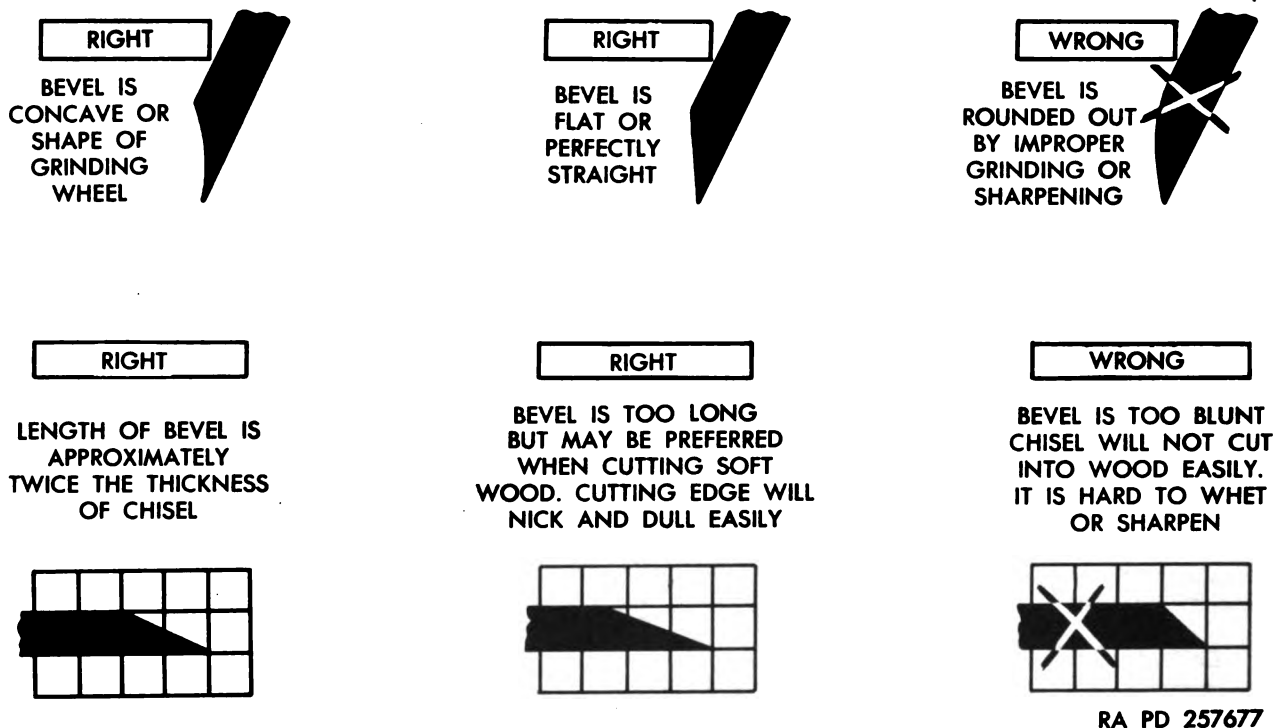

Figure 207. Right and wrong chisel bevels.
- (2) *Grinding.* Grind the bevel of a woodworker's chisel concave to the shape of the abrasive wheel used, or to a perfectly flat or straight bevel (fig. 207). The length of the bevel should be approximately twice the thickness of the chisel, or slightly longer if the chisel is used to cut soft wood.